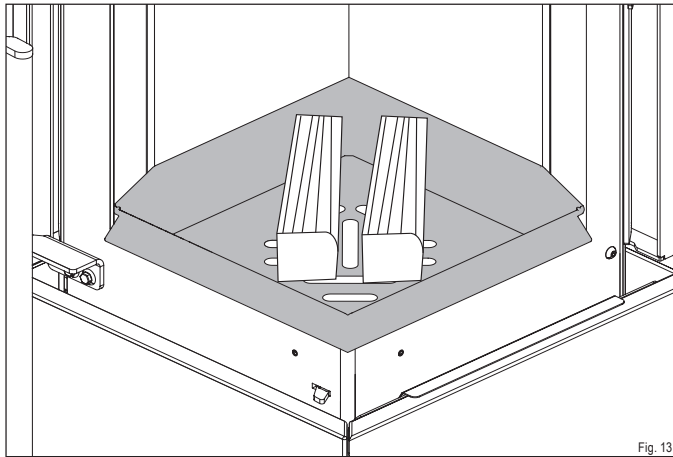

Fig. 13
- ▶ **Add two logs (4) with a total weight of 1.5 kg in the middle of the firebox (face forward) (Fig. 13).**